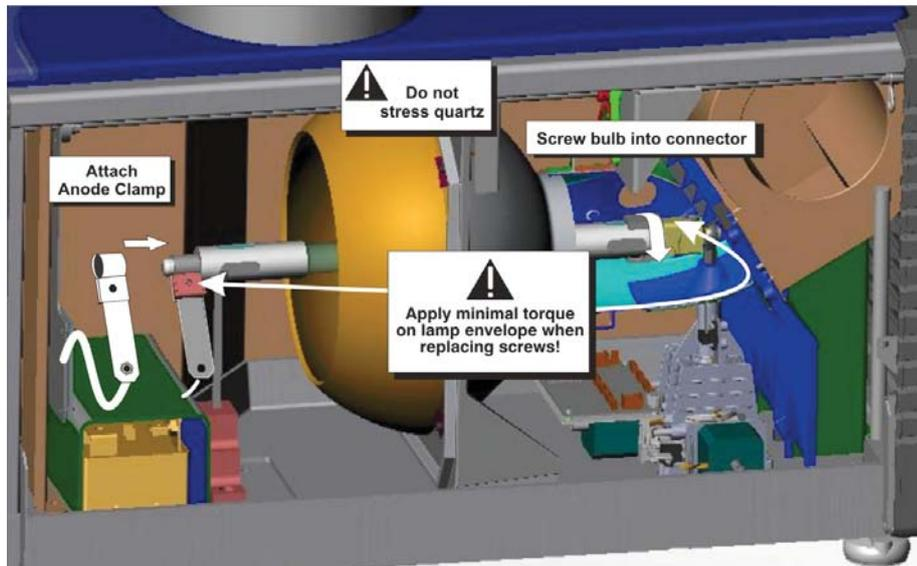

Figure 4-2 Install New Lamp
- c. Insert the threaded cathode (-) end of the lamp into the negative lamp connector nut located in the rear of the lamp compartment. (Figure 4-2) Using both hands, hand-tighten this end into the threaded nut.
- d. Rest the anode (+) end of the lamp on the anode yoke and slip the positive lamp connector over the bulb end. **(Figure 4-2)** Using the 5mm Allen key, squeeze together with the anode clamp making sure not to place any torque on the lamp quartz tube. **Important!** For CDXL-30SD lamps, make sure the “flat” part of the anode end of the lamp (if applicable) is facing in the 10 or 2 o’clock position once the lamp finger is installed in the 14mm threads and the clamp screw is tightened. For all other lamp types, keep the “flat” part of the anode end of the lamp facing up. **Warning!** Explosion hazard - Do not apply torque to the anode end of the lamp.